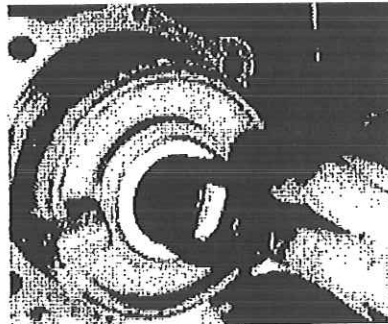

FIGURE 1
6. Remove the bearing from the bearing housing by gently tapping the bearing's inner race. **NOTE:** If the water slinger has fallen into the bearing housing, be sure to remove and replace with the one provided (see Figure 1). Take care to avoid damage to the ceramic seal insert.